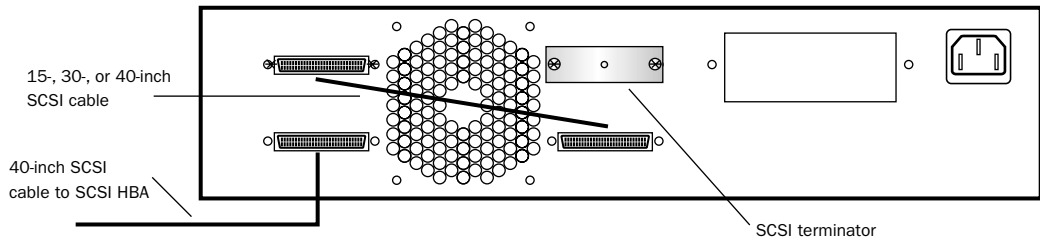

Figure 7. Single MediaDock II chassis, single-channel SCSI with termination
- 4 If you have two MediaDock shuttle drives installed in the MediaDock II, and you only want to use a single SCSI channel, connect a SCSI cable to the other SCSI connector for the first bay and to one of the SCSI connectors for the second bay (see Figure 7 on page 15).